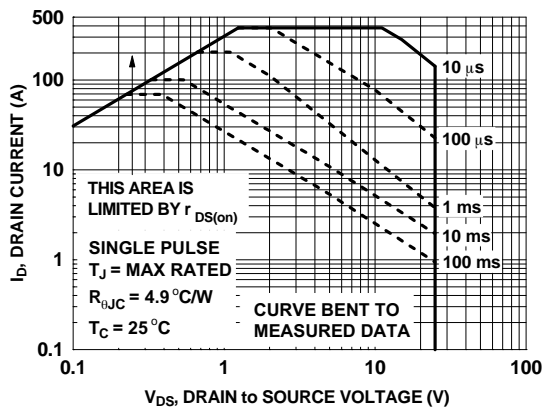

Figure 11. Forward Bias Safe Operating Area
3. Pulsed I_D please refer to Figure 11 and Figure 24 SOA graphs for more details.